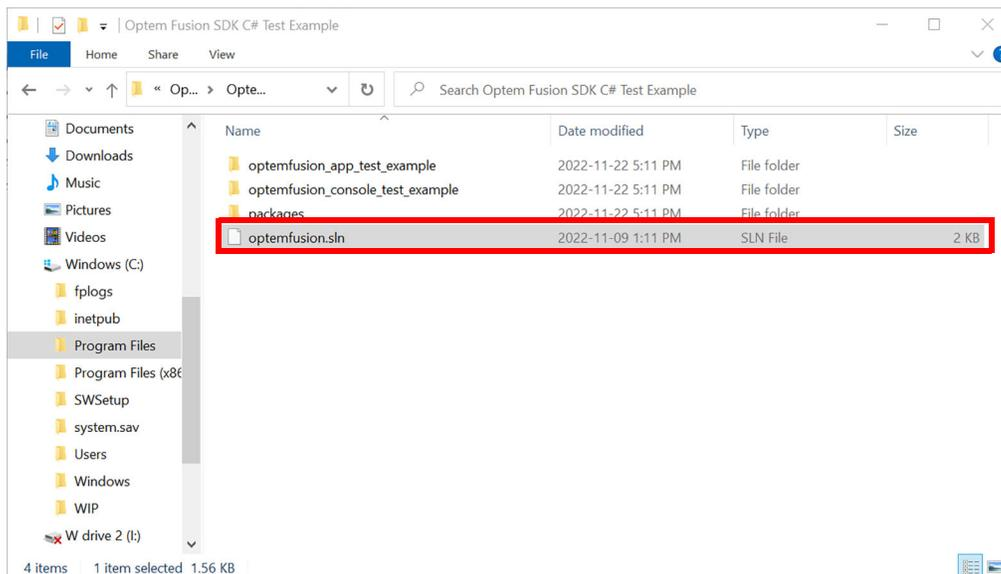

Figure 47 C# Test Example Folder Contents
3. Double click **optemfusion.sln** (outlined in red in Figure 47), to open the solution file.